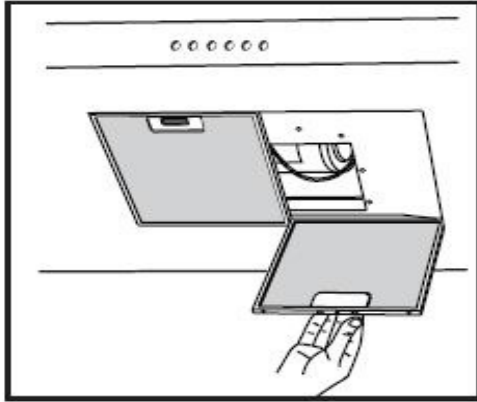

Fig.12
- The minimum distance between the support surfaces of the cooking pots on the cooker top and the lowest part of the cooker hood must be at least 65 cm. If a connection tube composed of two parts is used, the upper part must be placed outside the lower part. Do not connect the cooker hood exhaust to the same conductor used to circulate hot air or for evacuating fumes from other appliances generated by other than an electrical source. Before proceeding with the assembly operations, remove the anti-grease filter(s) (Fig.12) so that the unit is easier to handle. In the case of assembly of the appliance in the suction version prepare the hole for evacuation of the air.
- If the cooker hood is supplied with a lower chimney piece that must be fixed to the hood body with screws, remove the anti-grease filters from the hood by acting on the relevant handles (Fig.12). Then screw the lower chimney piece pipe to the inside of the hood, using screws **P**(Fig.13).